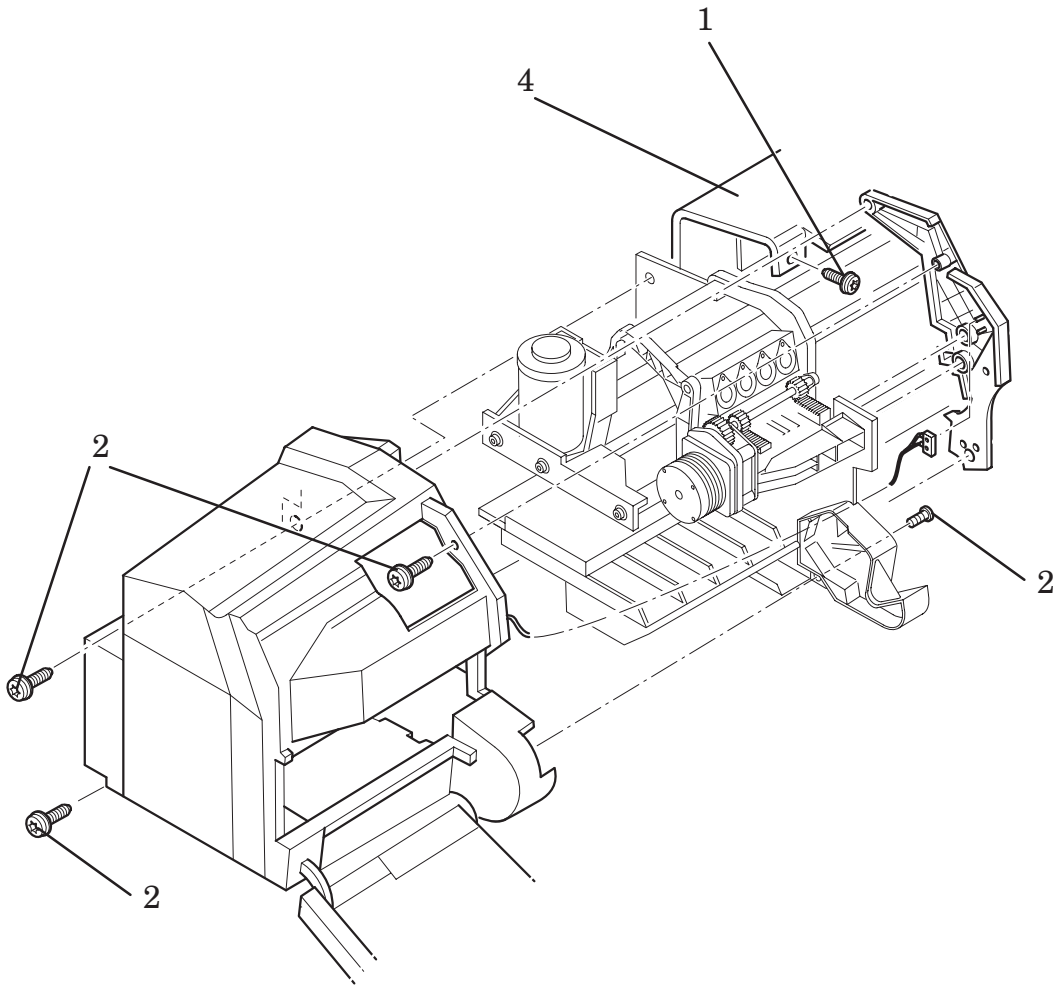

Figure 3: Top Cover
Refer to figures 3 and 4 ▶ page 8-16 and 8-17
1. Remove two T-15 screws (item 1 on figures 3 & 4) securing the top cover to the left and right hand covers.
2. **Loosen** the screws (item 2 on figure 3) on the left hand cover.
6. Remove the top cover (item 4 on figure 3).
1. Install the top cover (item 4 on figure 3) making sure that the two small wire clamps on the centronics port are positioned vertically.
5. Tighten the screws on the left hand cover (item 2 on figure 3).
6. Using two T-15 screws, secure the rear cover to the left and right hand covers (item 1 on figures 3 & 4).